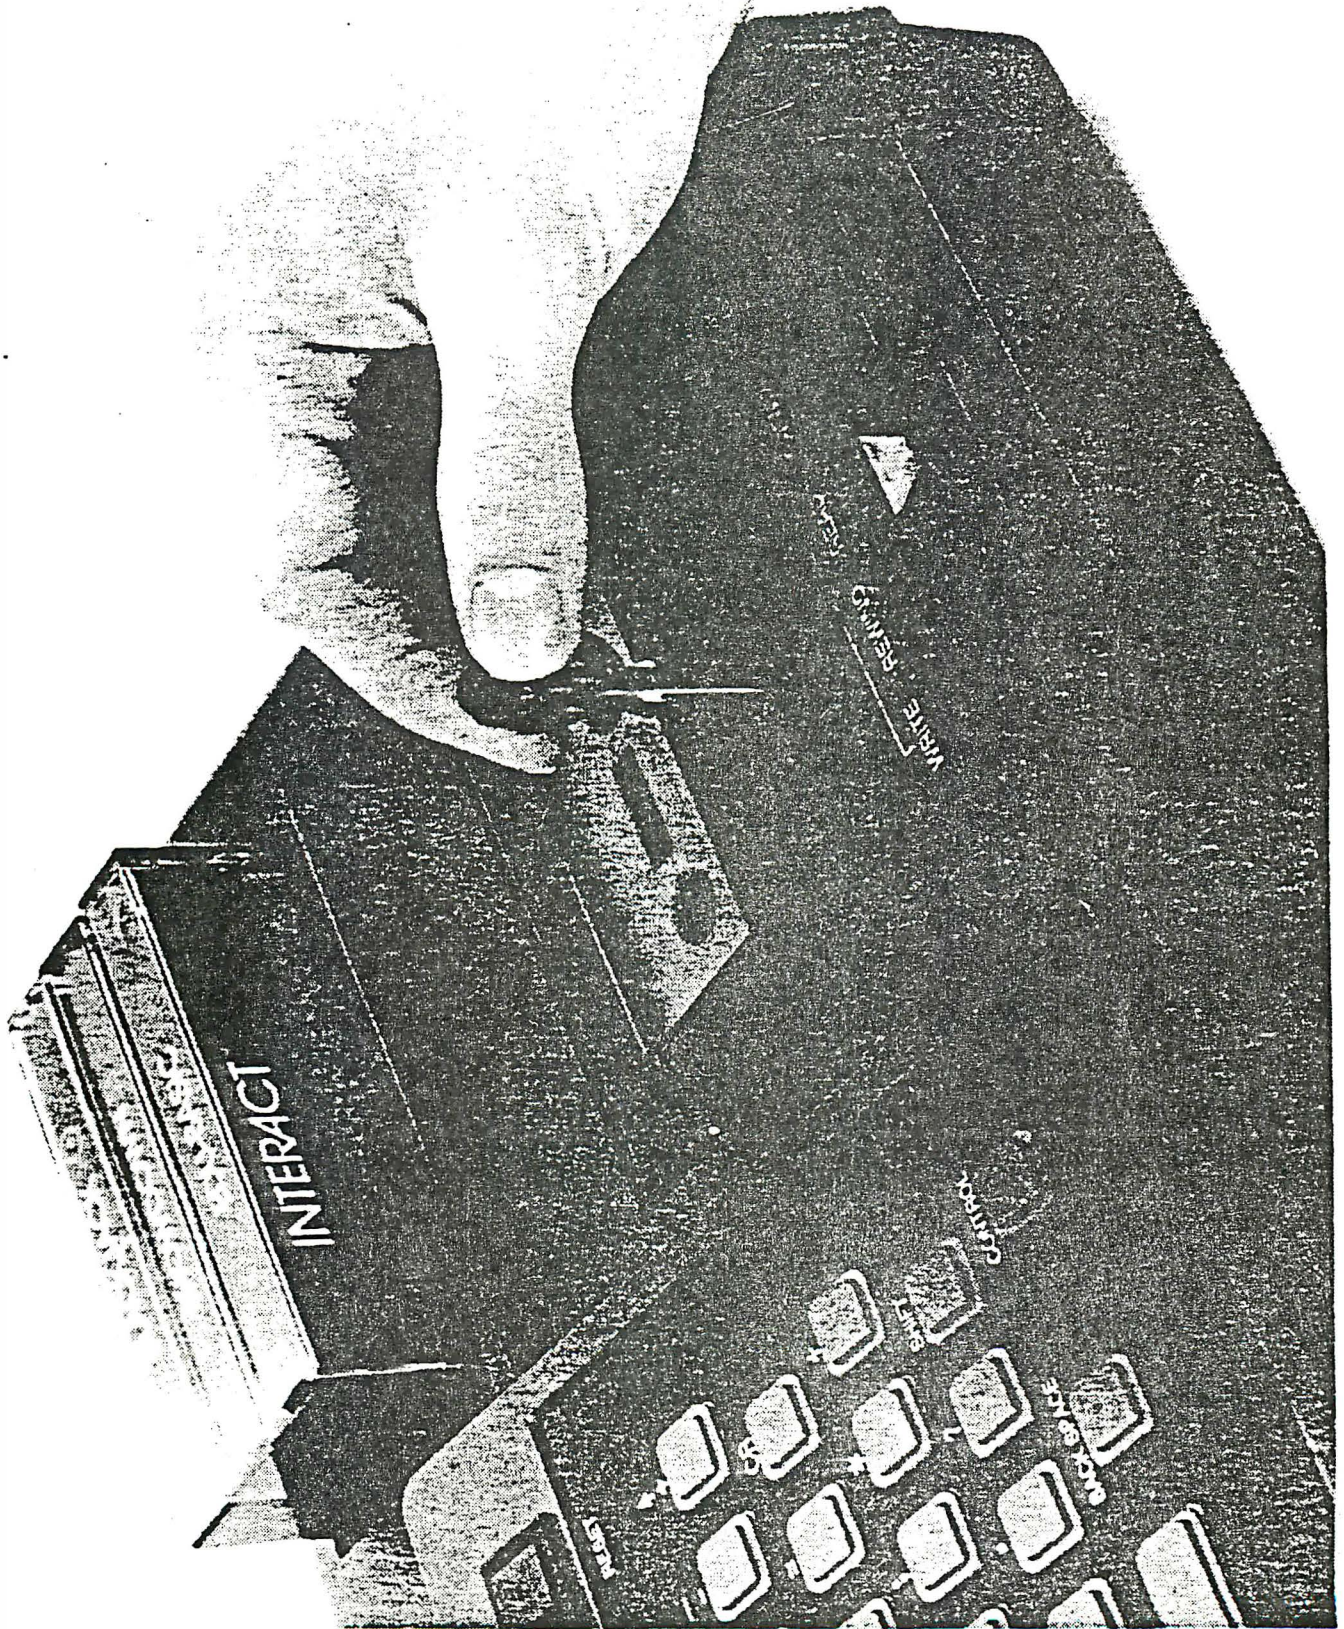

FIGURE 11--Aligning Cassette Tape Head
4. Load the Head Alignment Tape into the cassette holder (see the Owner's Guide for details) and depress the letter "L" on the keyboard. Press the REWIND cassette button and allow a few seconds for the tape to rewind. Press the READ cassette button. The cassette spindles should begin to turn slowly. As the tape reads in, a steady tone is produced. Insert the small Phillip's screwdriver into the access hold in the cassette transport housing (see Figure 11.)